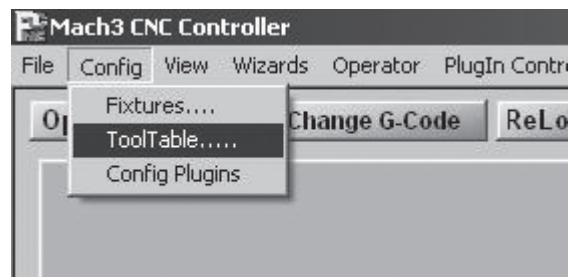

Figure 6.2: Open Tool Table
- Use the Config menu to open the tool table (figure 6.2). It will look something like figure 6.3